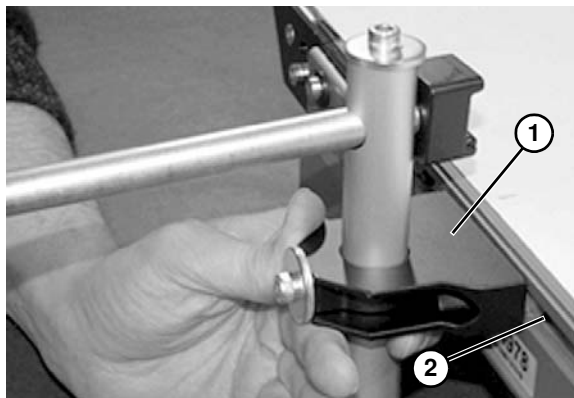

Figure 35
- Install guide bracket assembly (**Figure 35, item 1**) into the conveyor t-slot (**Figure 35, item 2**).